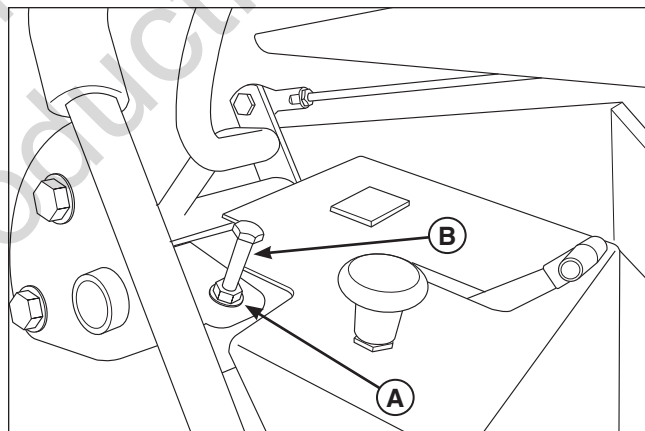

Figure 30. Reverse Speed Balancing Adjustment
1. Loosen the securing nut (**A**, **Figure 30**).